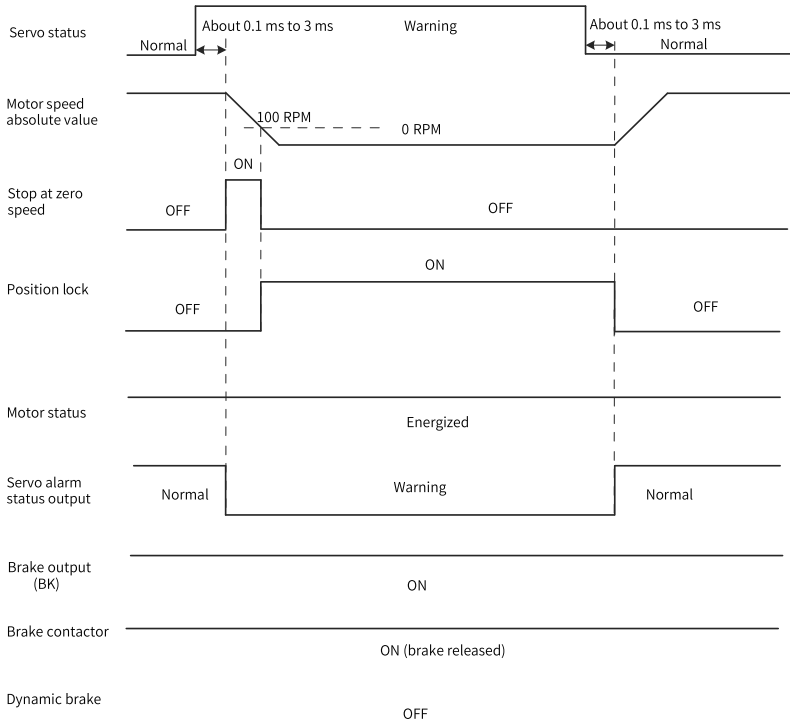

Figure 2-24 Sequence of warnings that cause stop
- When a No. 3 warning occurs on the servo drive, such as Er.900 (DI emergency braking), Er.950 (Positive limit switch warning), and Er.952 (Negative limit switch warning), the servo drive stops according to "Figure 2-24 Sequence of warnings that cause stop" on page 50.